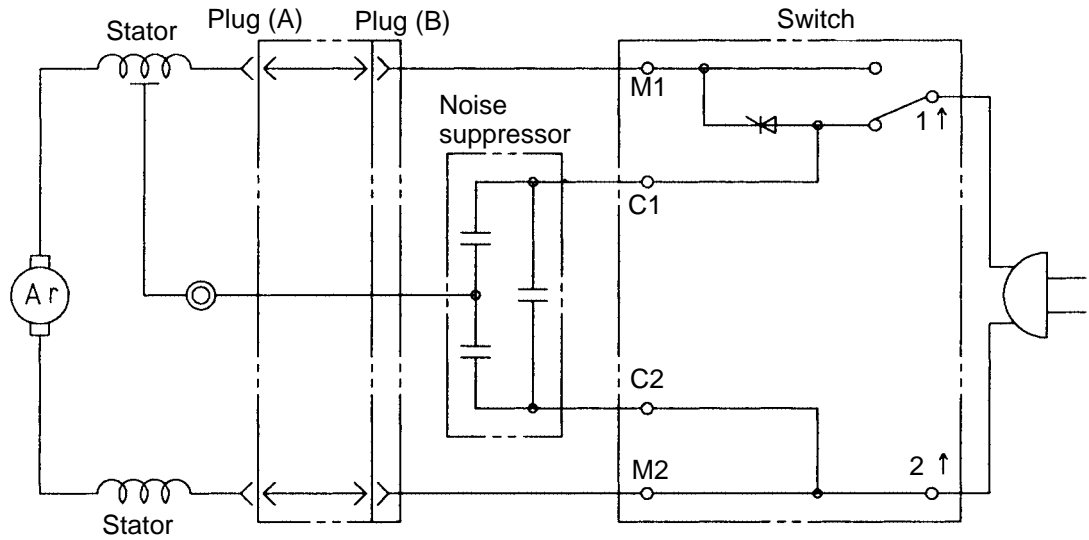
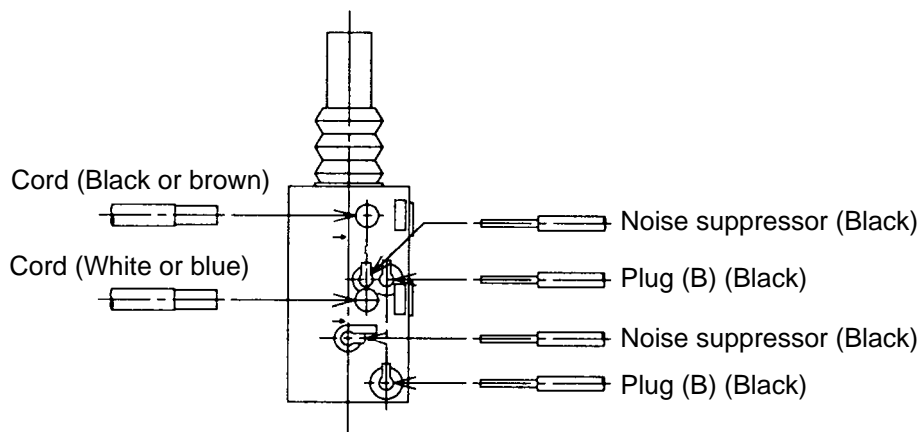

Fig. 16
Fig. 18
Insert each cord into the terminal 1† and terminal 2† of the speed control switch as shown in Fig. 18 and tighten the screw [tightening torque: $0.6 \pm 0.2 \text{ N}\cdot\text{m}$ ($6 \pm 2 \text{ kg}\cdot\text{cm}$, $5.2 \pm 1.7 \text{ in}\cdot\text{lbs.}$)]. Insert each lead wire (black) coming from Plug (B) into the terminals M1 and M2. Insert each lead wire (black) coming from the noise suppressor into the terminals C1 and C2. After insertion, pull each lead wire slightly to check the lead wires do not come off. To disconnect the lead wires, insert a small flatblade screwdriver into the slots near the terminals and pull out the lead wires. (Fig. 16)